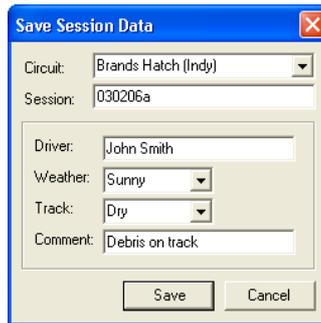

Figure 18 - Save Session Data Dialog
3. When the data has been successfully transferred the Save Session Data dialog (Figure 18) appears. Podium Plus will populate the Session field with a unique identifier for this session based on the current date. Other fields will be set to the values used previously.